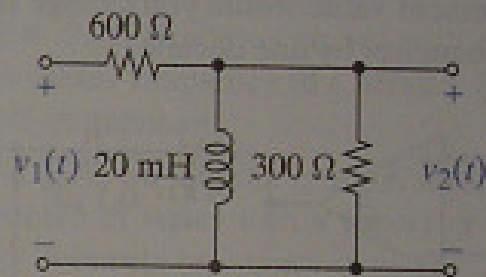

FIGURE P12-2
- 12-2 Find the transfer function $T_V(s) = V_2(s)/V_1(s)$ of the circuit in Figure P12-2.